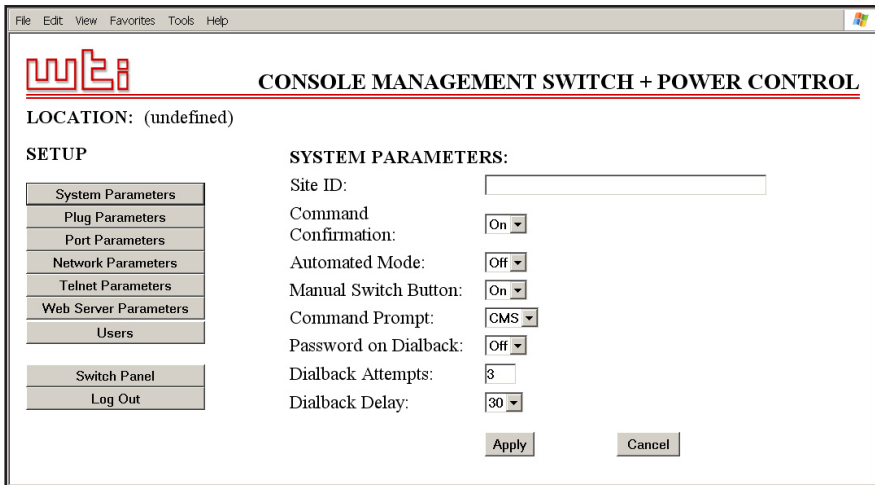

Figure 5.3: System Parameters Menu - Web Browser Interface
- **Web Browser Interface:** Click the "Setup" button to access the Setup Menus, and then click the "System Parameters" button. The System Parameters Menu will be displayed as shown in Figure 5.3.